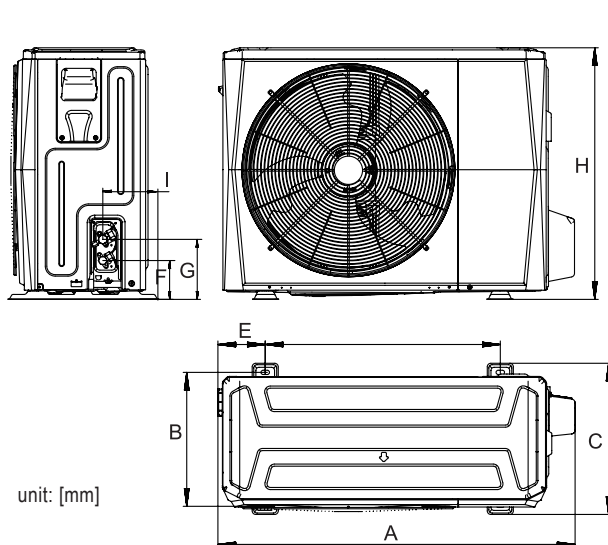

Figure 6-1
- Enter the condensate pipe into the drain (1).
- Use a layer of coarse pressboard (3) permeable to water. The minimum thickness of the coarse pumping layer is 600 mm.
- Make two foundation footings (4) of concrete or concrete blocks. Make the spacing of the concrete blocks according to dimension D of Figures 6-1 and 6-2.